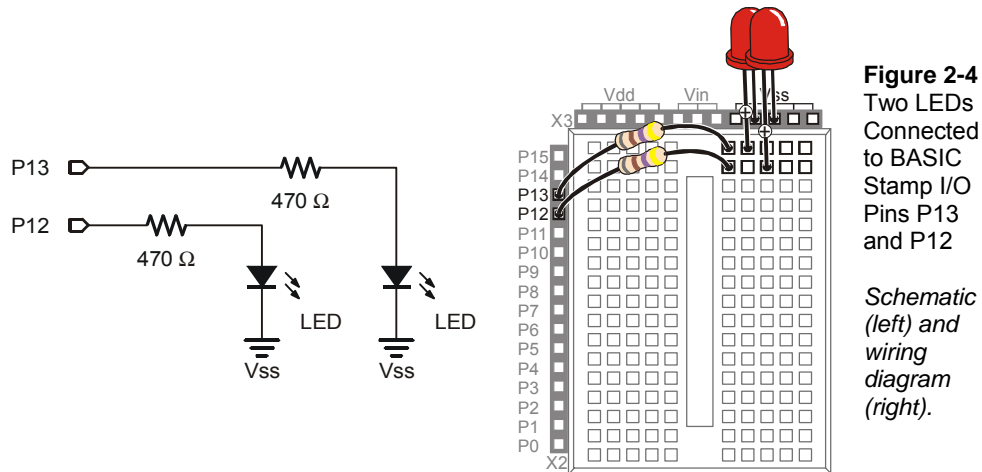

Figure 2-4
If you completed the *What's a Microcontroller?* text, you are no doubt very familiar with the circuit shown in Figure 2-4. The left side of this figure shows the circuit schematic, and the right side shows a wiring diagram example of the circuit built on your board's prototyping area.
- ✓ Build the circuit shown in Figure 2-4.